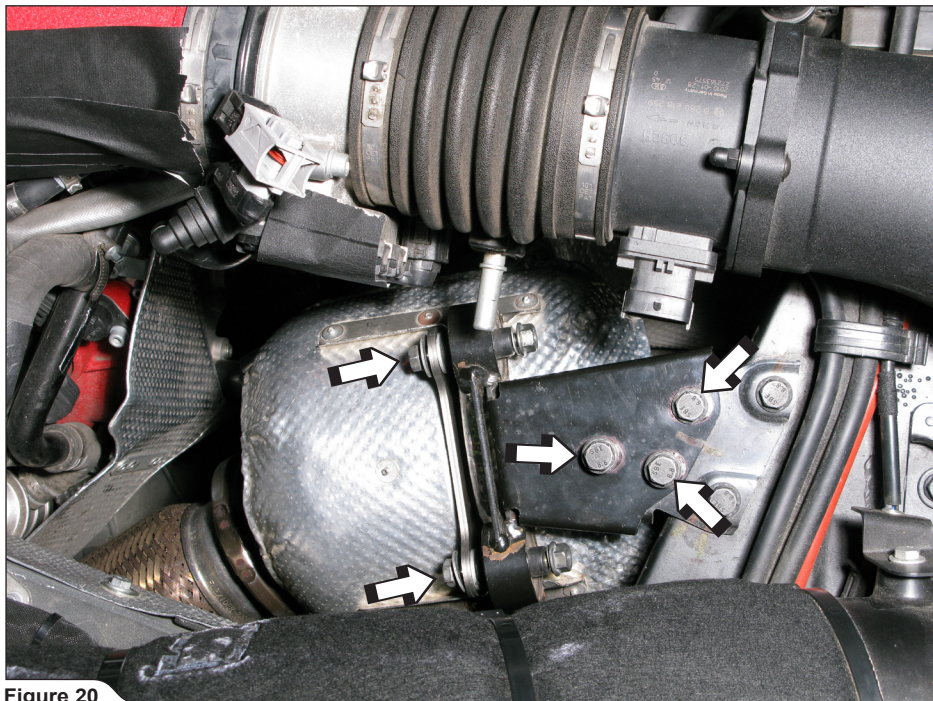

Figure 20
4. **For optional Link Pipes only:** hand tighten Link Pipes' heat shield bolts on both sides of the engine; use original bolts, washers and nuts (**Figure 20**).